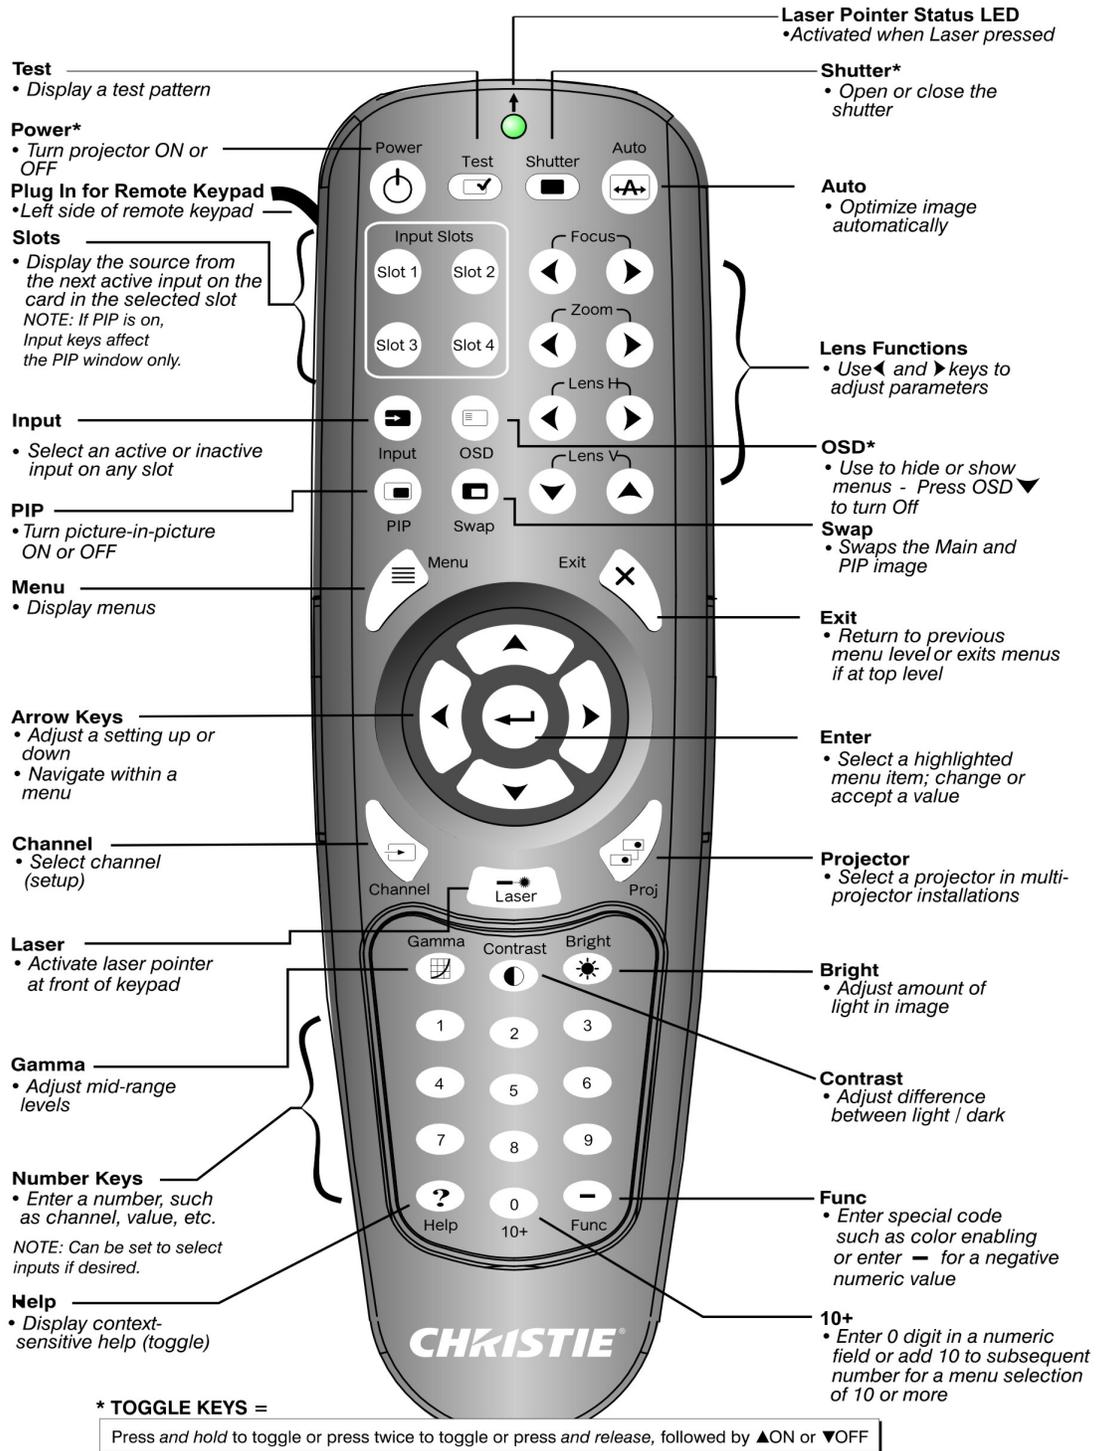

FIGURE 3-1 REMOTE KEYPAD
- **Remote Keypad** for wired or wireless control up to 25 feet (8m) away (includes cable for use as a wired remote). The remote keypad controls the projector by way of wireless communications from a battery-powered infrared (IR) transmitter. Use the remote keypad the same way you would use a remote keypad supplied with a TV or VCR. When pressing a function key, direct the keypad toward the projector's front or rear IR sensor. One of the two IR sensors on the projector will detect the signal and relay the commands for internal processing. A laser pointer is built into the remote keypad. See Figure 3-1 Remote Keypad.
- Press keys one-at-a-time; there are no simultaneous key combinations required. **NOTE:** Use POWER, SHUTTER, and OSD functions by doing one of the following: “press-and-hold” (2 seconds) or press twice quickly, followed by pressing either the UP ARROW KEY to switch on or the DOWN ARROW KEY to switch off once. See Figure 3-1 Remote Keypad.
Refer to Figure 3-1 Remote Keypad for the description of those keys provided for the remote keypad.
Specific keypad commands are explained, see *Figure 3-1 Remote Keypad*: